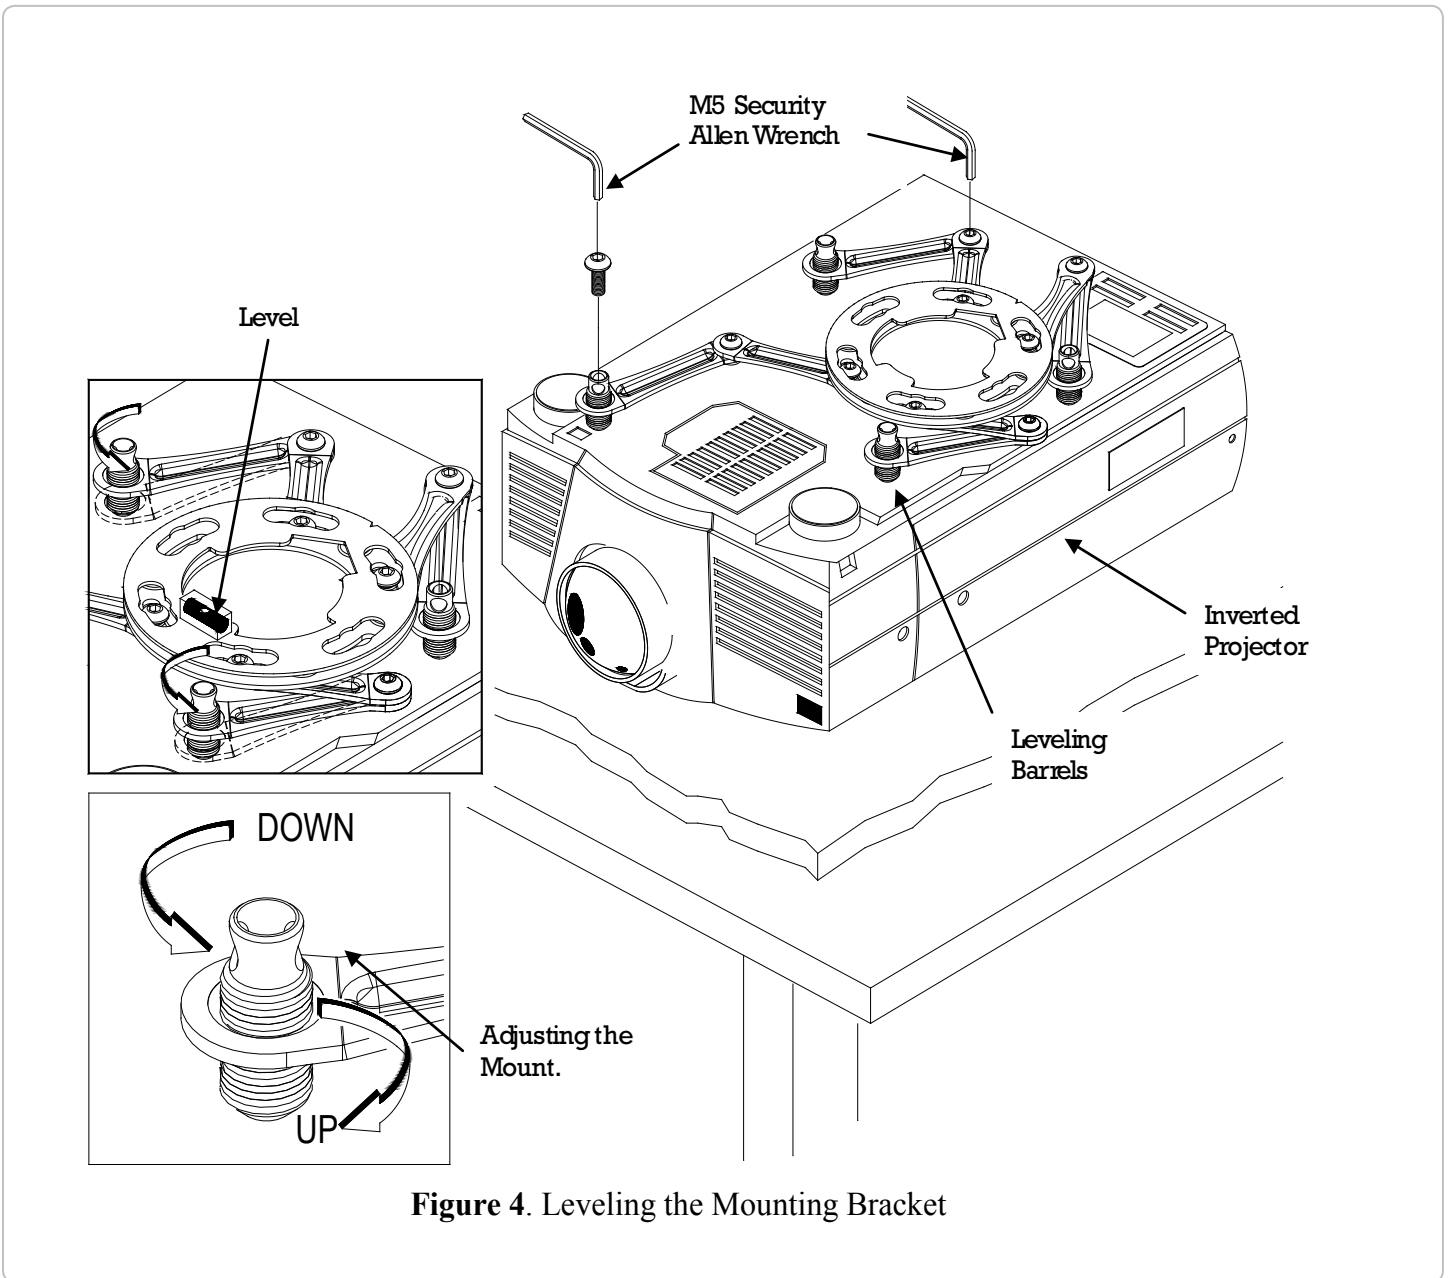

Figure 4. Leveling the Mounting Bracket
Step 3. When the desired position is achieved, tighten the mounting screws to the projector and then tighten the security hex head screw with the M5 Security Allen Wrench (Figure 4).